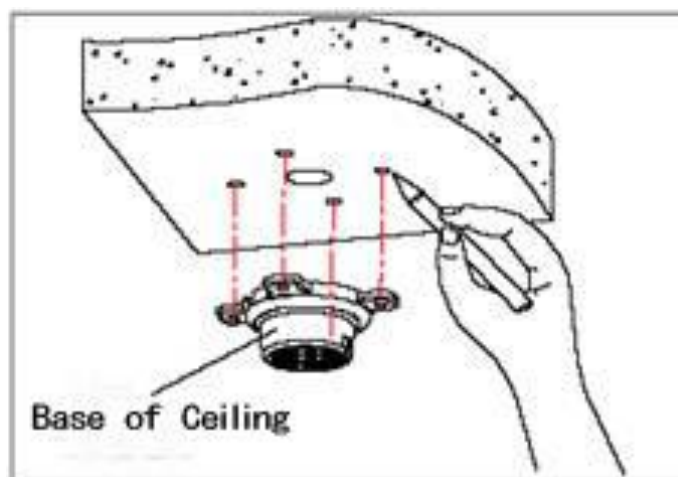

Fig 2.3
a. As shown in fig 2.3, use the Base of ceiling (base plate) as a template to mark the fixing points on the ceiling or soffit and drill accordingly (you will also require a larger, 5th hole for the Coax, RS-485 & 12VDC cables).